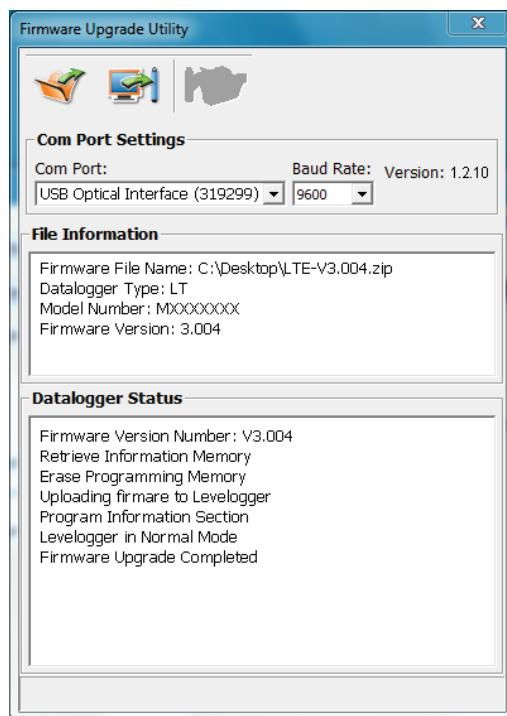

Figure 12-1
- 5) If a communication error occurs and is indicated in the Leveelogger Information Window (Figure 12-1) either before the 'Verified Program Checksum' message or after the 'Program Information Section', then restart the upgrade process.